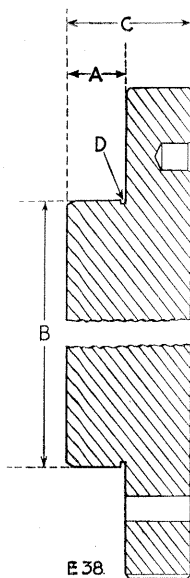

Fig. V-2—Machining flywheel for ring gear (Diesel models)
2. Machine the flywheel teeth off flush and turn the gear ring spigot to the dimensions shown in the illustration (Fig. V-2).